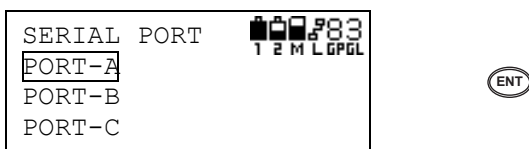

Figure 3-79. Select Port and Press Enter
- On the Serial Port screen, select the port to be set and press **ENT** (Figure 3-79).